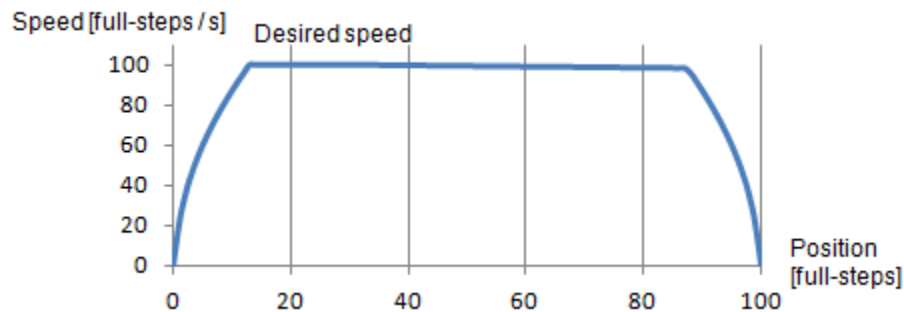

Figure 5. Acceleration and deceleration ramp
- a) The **Full-step Configuration** group contains speed and acceleration settings. Code for the acceleration and deceleration ramp is generated when the Acceleration property is set to a value greater than zero. Note that acceleration is always the same as deceleration. An example of an acceleration ramp is depicted in Figure 5. The acceleration setting is 400, as shown in Figure 4.